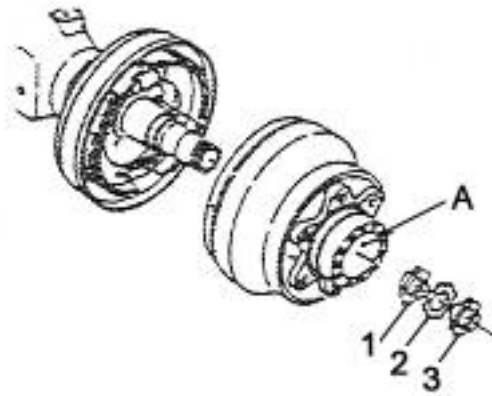
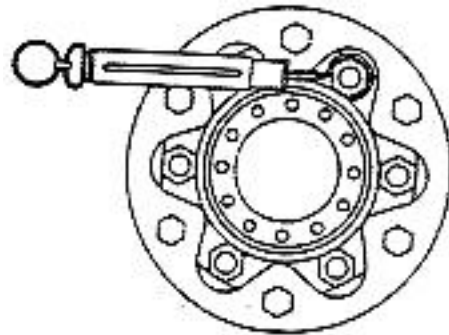

Figure 2-1 Add grease
Figure 2-2 Measure the start torque
- (1) Add 100ml grease into the wheel hub, and then install it on the shaft. (Figure 2-1)
- (2) Tighten the adjusting nut with a torque of about 9.8N·m and then turn it 1/2 turn.
- (3) Hang the spring gauge on the bolt to measure the starting torque of the hub. When it reaches the specified value, slowly lock the nut. Start torque: 49N·m-147N·m. (Figure 2-2)